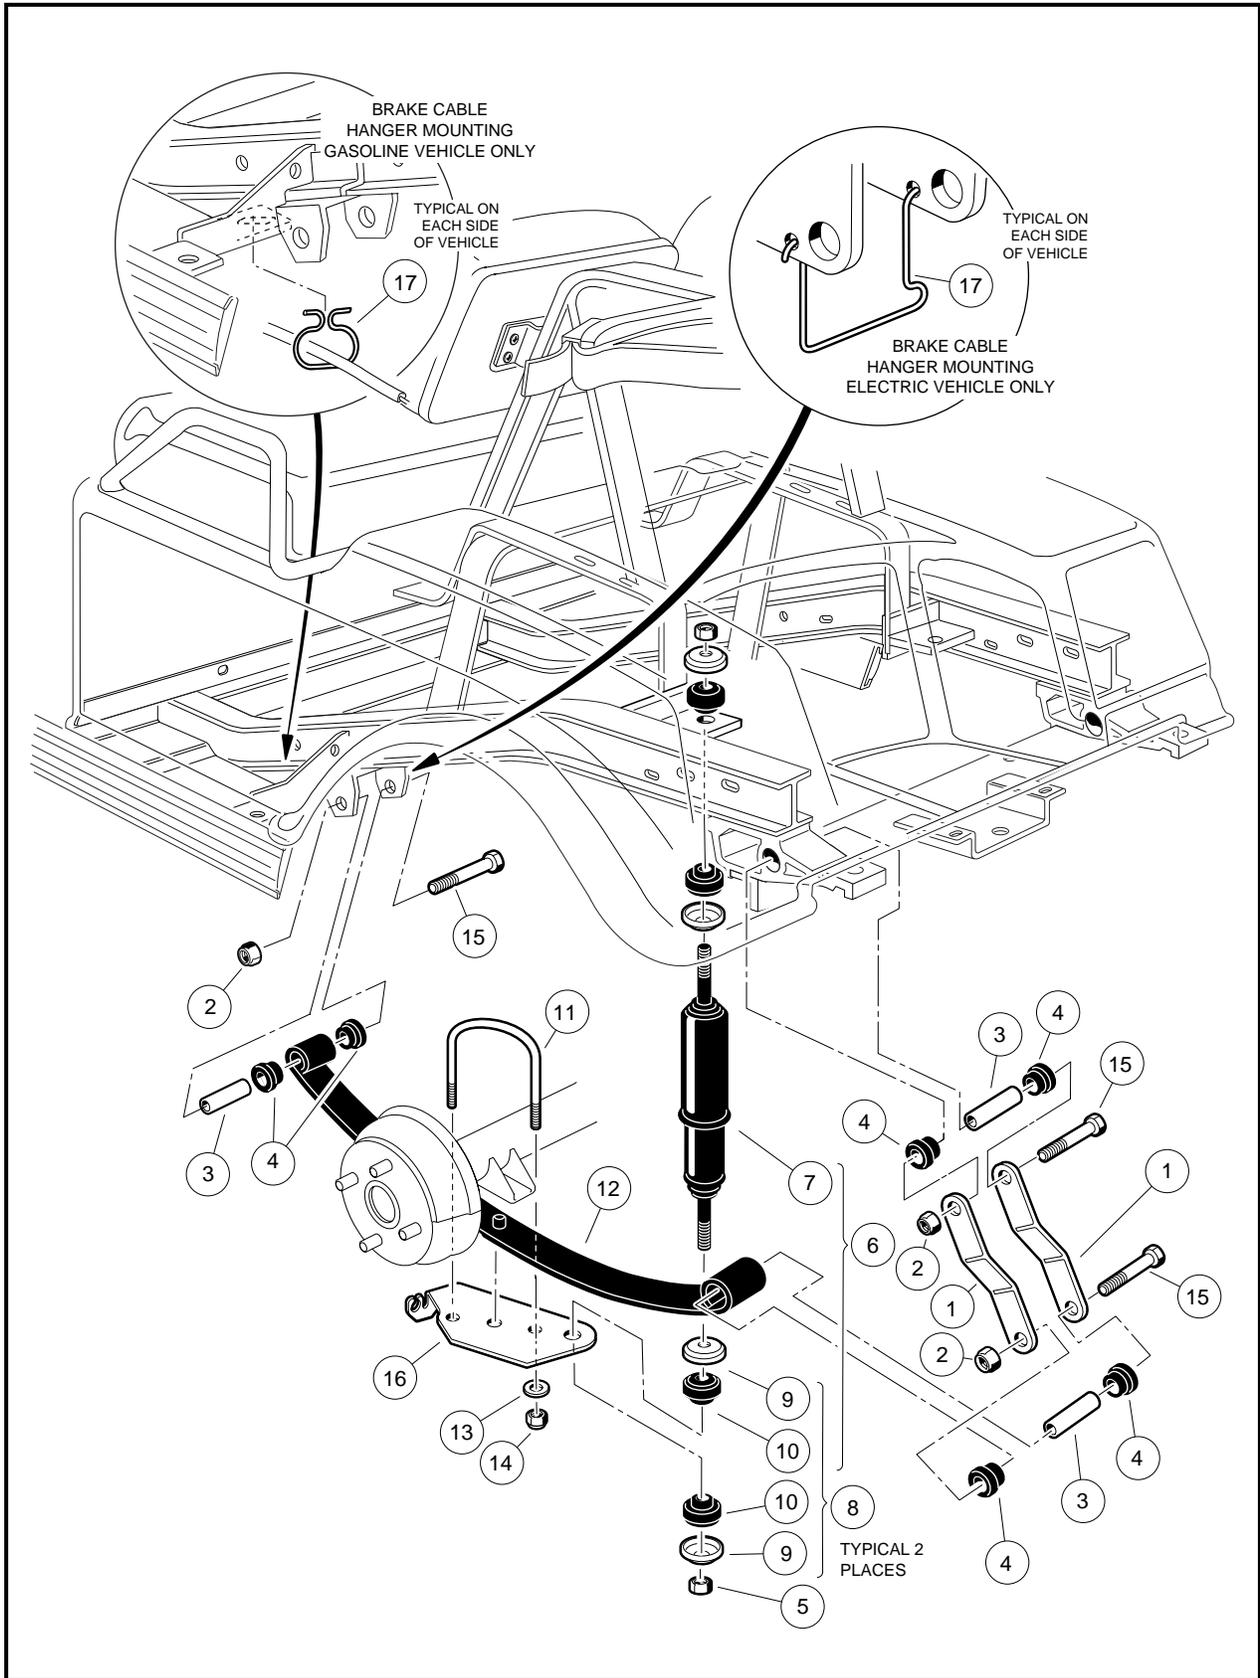
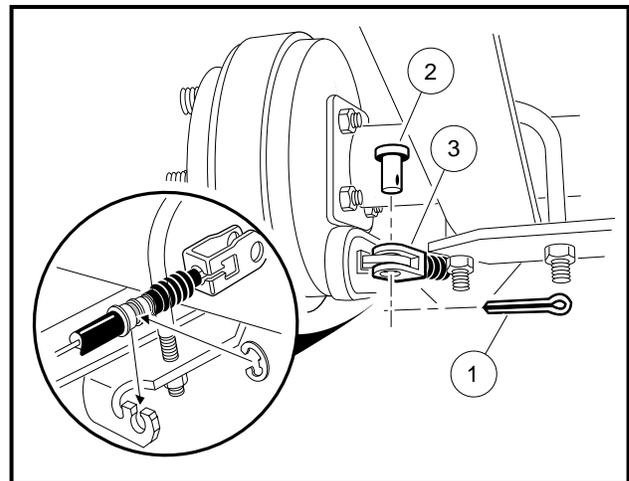

Figure 9-1 Rear Suspension Assembly and Mounting
Figure 9-3 Disconnect Brake Cable
1. Check shock absorbers (7) for fluid leakage at the point where the shaft enters the shock absorber body. Replace leaking shock absorbers (**Figure 9-1, Page 9-2**).
2. To remove a shock absorber, remove the nut (5), cup washer (9) and rubber bushing (10) from the stem at the top of the shock absorber (**Figure 9-1, Page 9-2**).
3. Remove the nut (5), cup washer (9), and rubber bushing (10) from lower mounting stem (**Figure 9-1, Page 9-2**).
4. Remove the cotter pin (1) and the clevis pin (2) at the brake lever and brake cable connection and pull the clevis (3) away from the lever (**Figure 9-3, Page 9-3**). Detach the brake cable from the shock mount bracket (16) (**Figure 9-1, Page 9-2**).
5. Remove the nut (5), cup washer (9), and rubber bushing (10) from the lower mounting stem of the shock absorber (**Figure 9-1, Page 9-2**).
6. Remove the nuts (14), lock washers (13), and the U-bolt (11) securing the spring to the transaxle (**Figure 9-1, Page 9-2**). Remove the shock mount bracket (16) and the U-bolt.
7. Remove the bolt (15) and nut (2) attaching the rear spring to the shackle (1) (**Figure 9-1, Page 9-2**).
8. Remove the nut (2) and bolt (15) attaching the front of the spring to the vehicle frame (**Figure 9-1, Page 9-2**) and remove the spring.
9. Inspect the bushings (4) and spacers (3) in the spring eyes and replace them if they are worn or damaged (**Figure 9-1, Page 9-2**).
3. Tighten nylon locknuts (2) on spring mounting bolts (15) to 15 ft.lb (20.3 N-m) (**Figure 9-1, Page 9-2**).